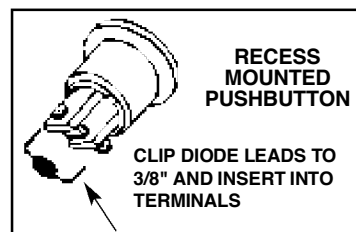

FIGURE 3
2. Refer to Figures 3, 4 and 5. Depending upon which type of pushbutton is being used, wire the diode to the two (2) terminals on the pushbutton.